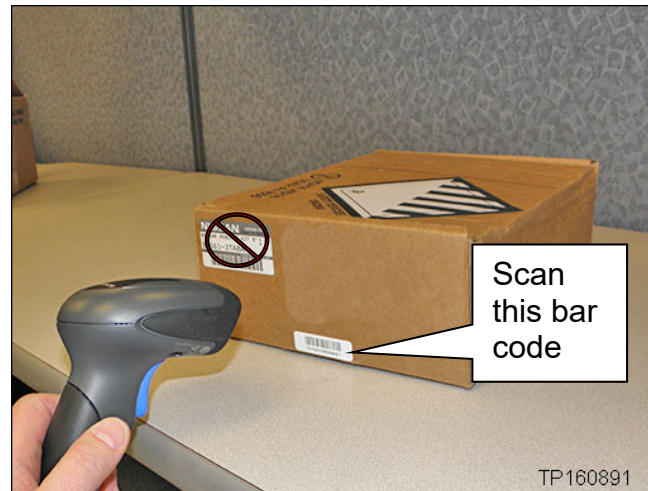

Figure 6
6. Use the quick scan tool to scan the bar code (serial number) on the side of the box of the new inflator (see Figures 6 and 7).